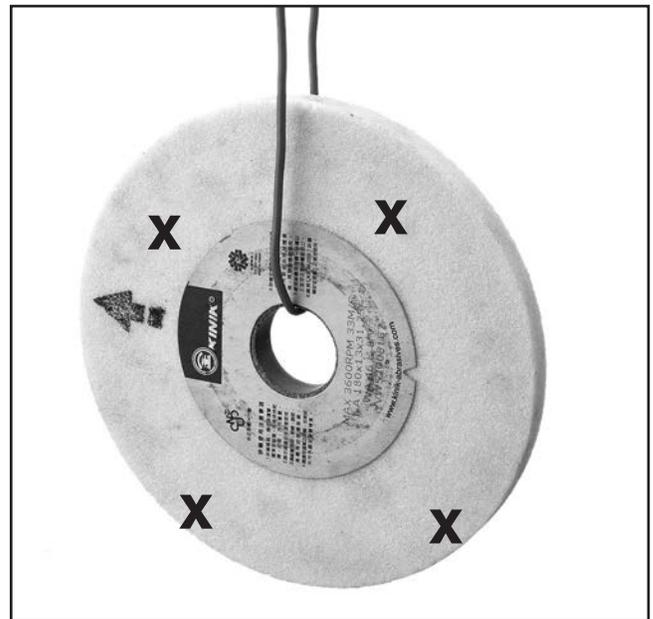

Figure 13. Ring test setup.
2. Hang the wheel in the air with a piece of cord or string looped through the hole in the center, as shown in **Figure 13**.
3. At the locations shown with an X in **Figure 13**, gently tap the wheel with a light non-metallic device such as the handle of a screwdriver or a wooden mallet.